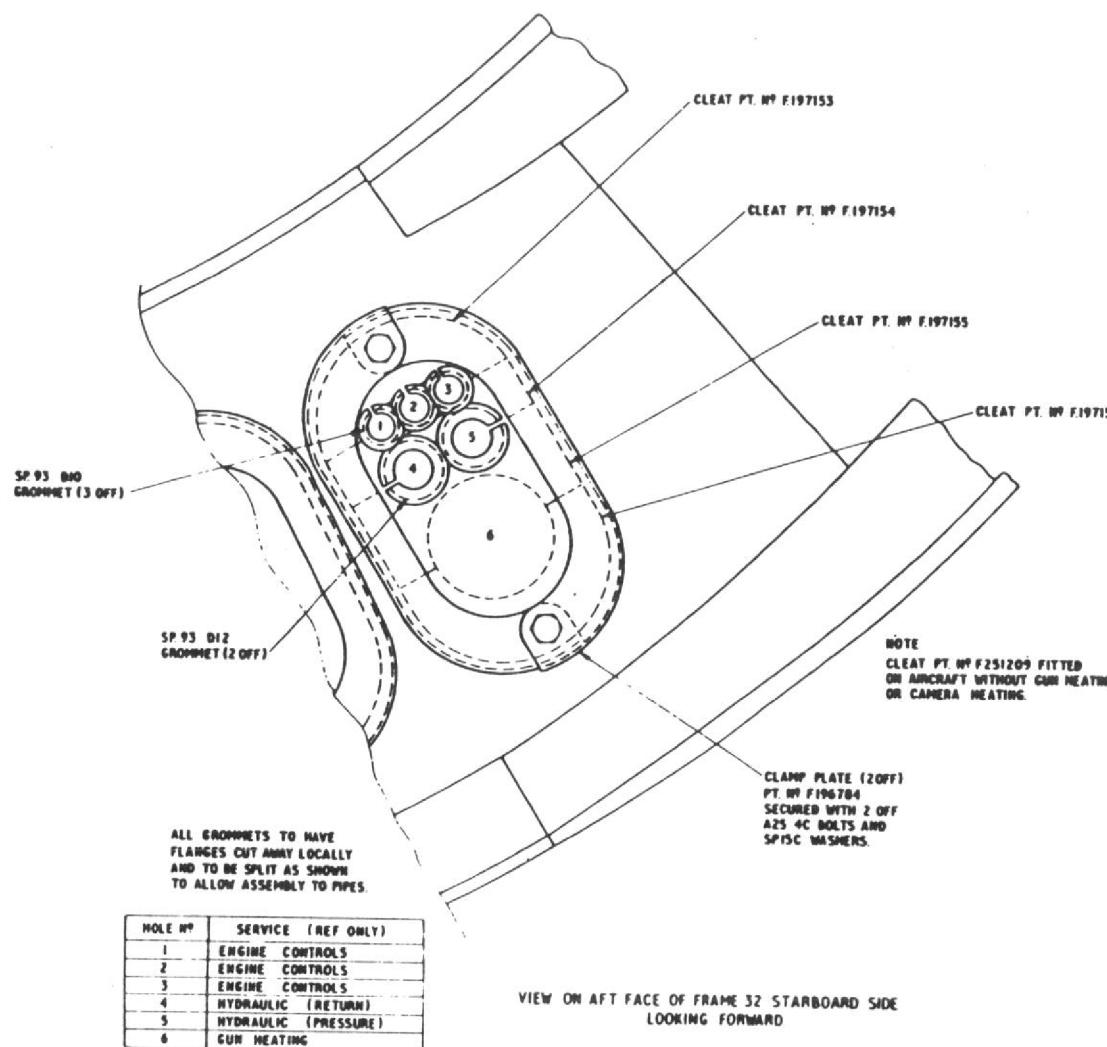

Fig.6A Assembly of clamp plates and cleats frame 32 (STI/Hunter/395)
- ◀ (2) Before engine installation, examine the pipes and clamp assembly located at the starboard lower aft face of frame 32 (fig.6A) for signs of pipe chafing, possibly caused by deterioration of the grommets or fracture of the pipe cleats. Renew any unserviceable pipes, cracked cleats or deteriorated grommets. Replacement grommets are to be Part No. SP 93, as specified in fig.6A, prepared by cutting away the flanges locally and splitting (as shown). After reassembling the grommets and cleats, check that adequate clearance exists between the pipes and controls (STI/Hunter/395 refers).
- (3) The accessories gearbox drive shaft universal couplings must be lubricated in accordance with the instructions given in *Accessories gearbox universal drive couplings* in this Chapter before the engine is installed.
- (4) When checking the accessories gearbox drive coupling, hold the spring housing of the engine coupling clear and torque load the drive shaft locknut as specified in A.P.101C-0111-16, Sect.4, Chap.1, para.15. Release the spring housing and ensure that the locking sleeve teeth are in positive engagement with those of the coupling nut.